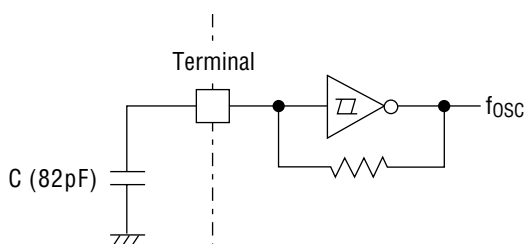

Figure 4. Oscillation Equivalent Circuit
Connect an external capacitor (C), as shown in Figure 4. The oscillating frequency f_{OSC} depends on the external capacitor used. The following equation is true between f_{OSC} and grid frequency (f_{GRID}):